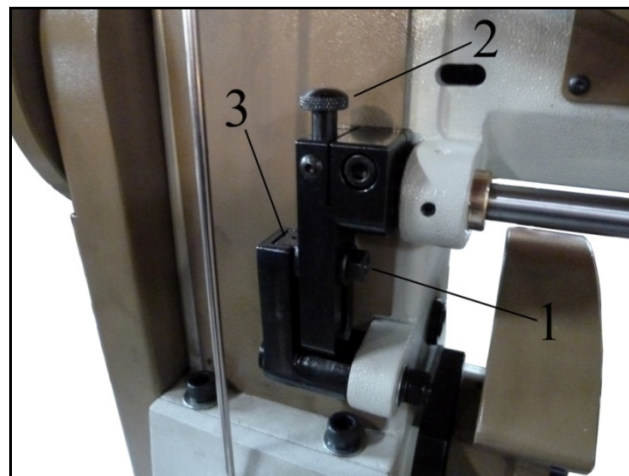

Fig.3
3.3 Adjustments setting of stitch length (Fig.3)